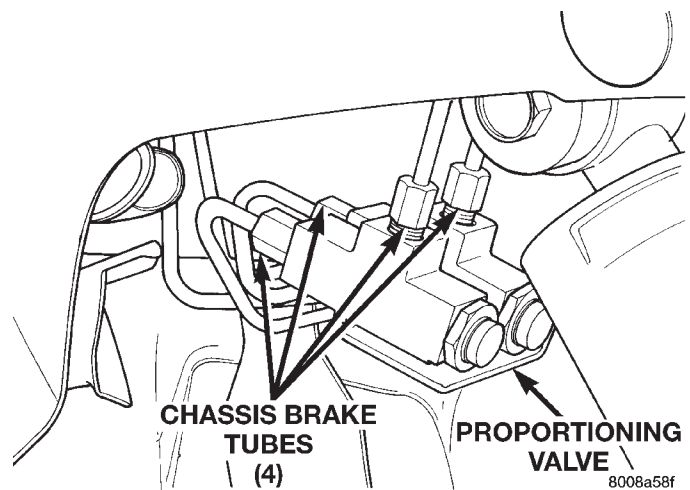

Fig. 132 Chassis Brake Tubes At Proportioning Valve
(3) Remove the 4 chassis brake lines from the inlet and outlet ports of the proportioning valve (Fig. 132).